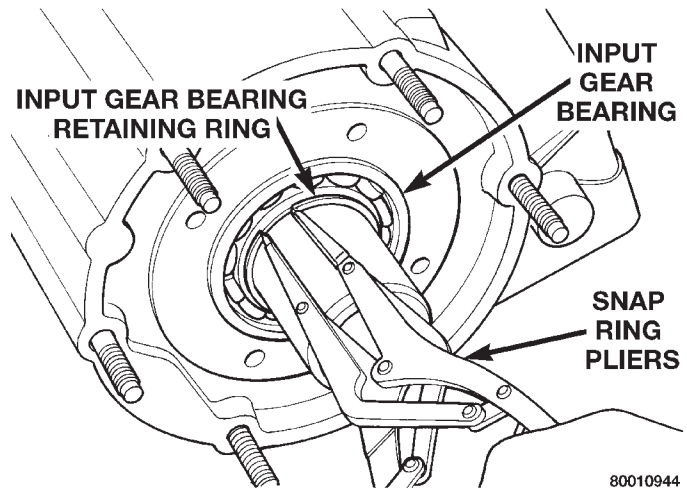

Fig. 31 Removing Input Bearing retaining ring
(3) Remove input retainer seal. Position retainer upside down over front case bearing. Then tap seal out with drift and hammer.
(4) Remove input gear bearing retaining ring with heavy duty snap ring pliers (Fig. 31)